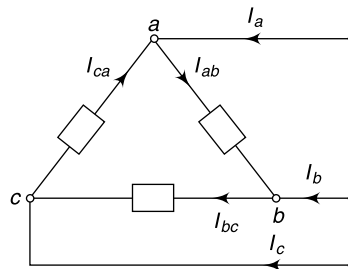

Fig. 4.20 Circuit of Ex. 4.30
4.30 A three-phase 440 V supply feeds a balanced delta connected load. Given: $I_{ab} = 30 \angle -30^\circ$ w.r.t. V_{ab} . Find (i) the line current I_a and its phase angle w.r.t. V_{ab} , (ii) total power received by the load and (iii) the resistance per phase. The corresponding figure is given in Fig. 4.20.